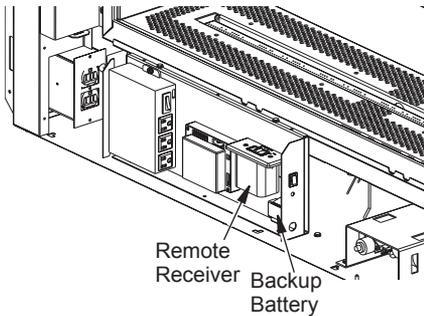

Figure 28 - Remote Receiver (Face Bottom not shown for Clarity)
4. The remote receiver is located on the right as shown in Figure 28, page 19.